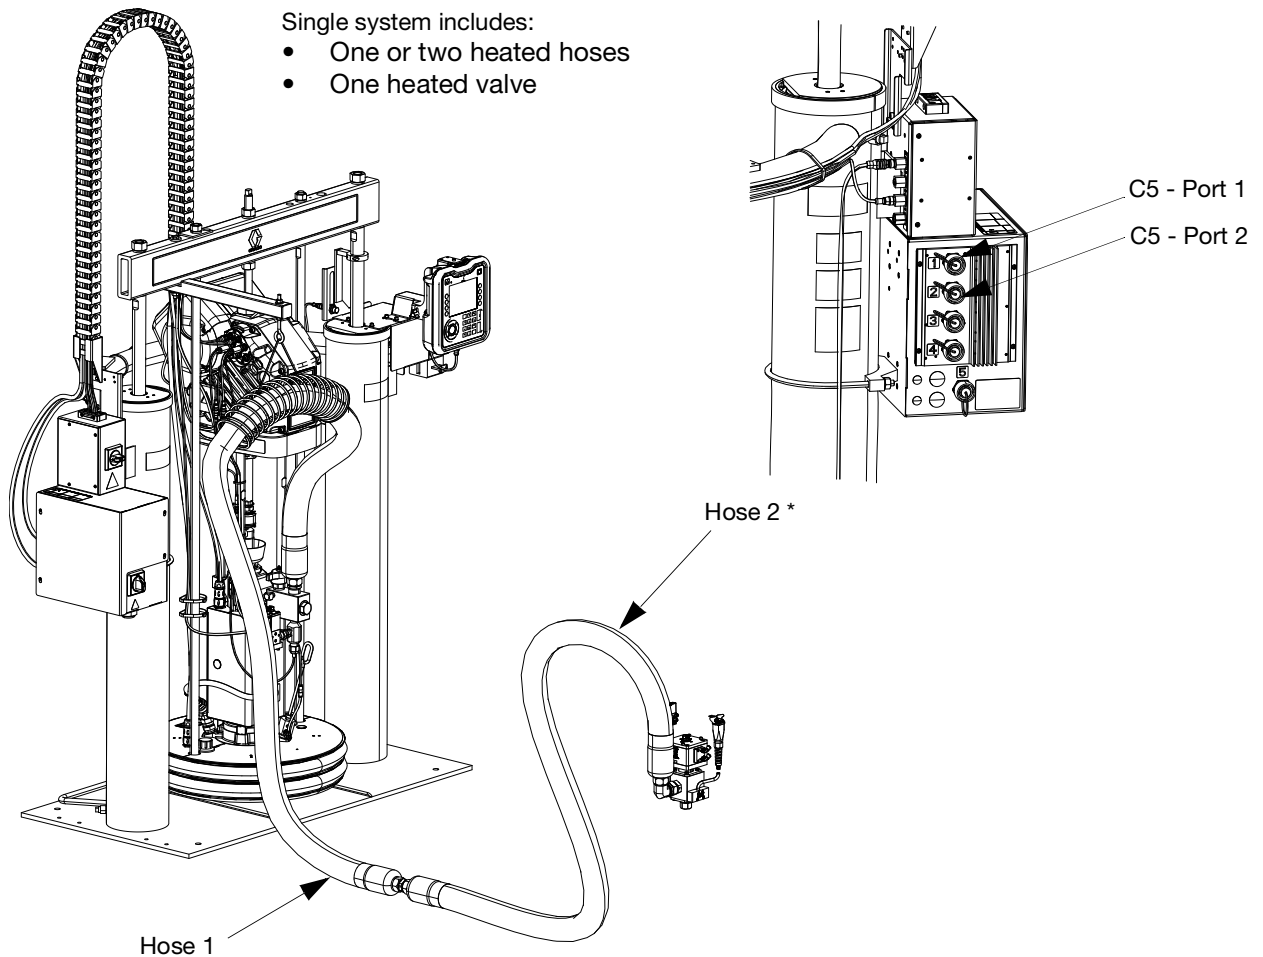

FIG. 26
- Heated valve - Square electrical connections from hose 2 to Axial Dispense Valve (B). See FIG. 26.